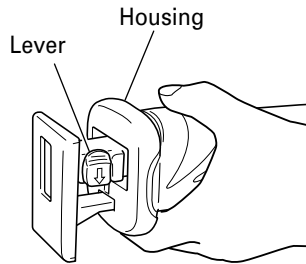

Fig. 5
- (1) Turn on and off the switching trigger several times so that the lever can jump out of the housing completely. Thereafter, turn off the switch and remove the battery. (Fig. 5)
(1) Turn on and off the switching trigger several times so that the lever can jump out of the front cover completely. Thereafter, turn off the switch and remove the battery. (Fig. 5)